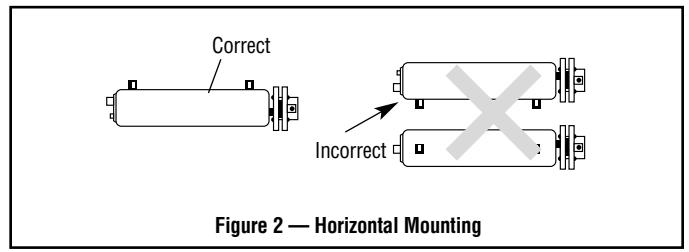

Figure 2 — Horizontal Mounting
- ments may be seriously damaged (Figure 2).